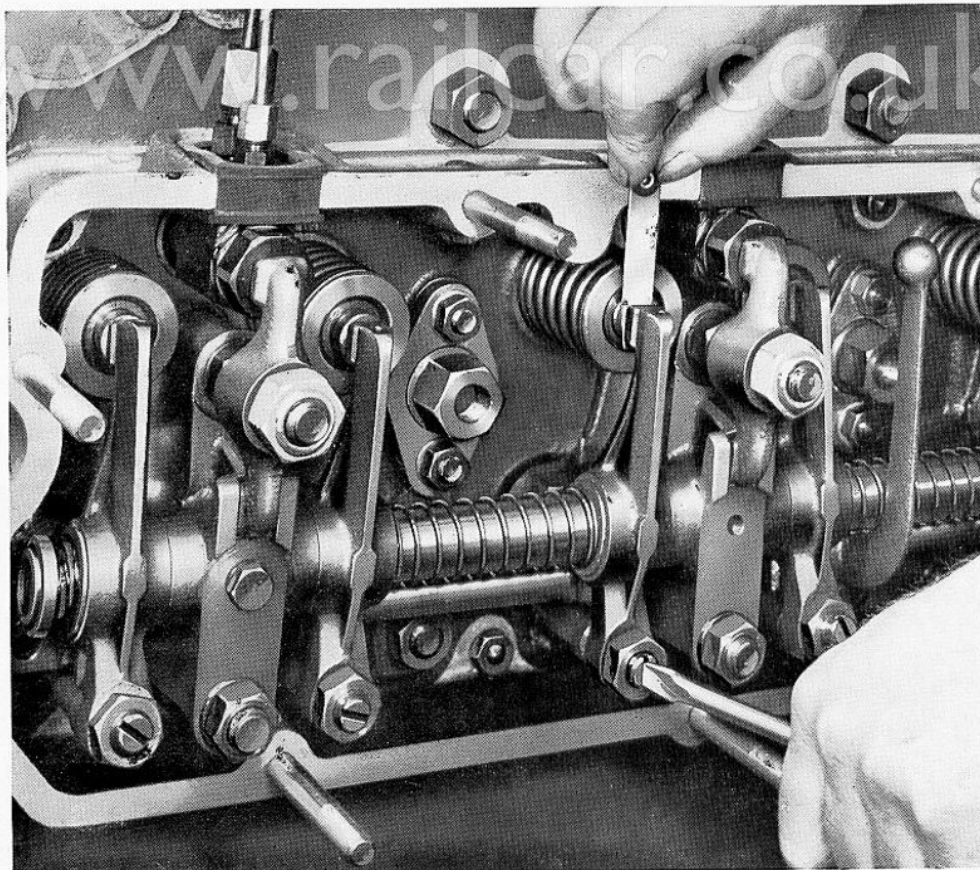

FIG. 14. ADJUSTING THE TAPPETS
6. Replace push rods and fit the rocker gear (Fig. 9). Set inlet and exhaust valve clearances to .020 in. (.508 mm.) cold (Fig. 14).
13. Check tappet clearances after the engine has had a short run (Fig. 14).